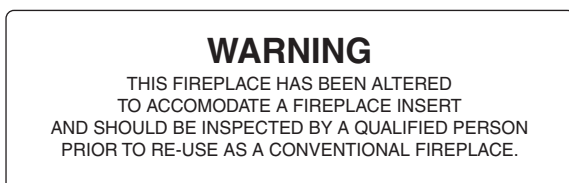

Fig. 20-1 Fireplace Warning Label
- F. Refractory panels, glass panels, screen rails, screen mesh and log grates may be removed from the fireplace (as needed) before installing the gas fireplace insert. Smoke shelves, shields and baffles may be removed if attached by mechanical fasteners. Any parts that are removed must be retained for later reinstallation to restore the fireplace to its original operating condition. The removal of any part must not alter the integrity of the outer shell of the pre-fab fireplace cabinet in any way. If any parts are removed (or altered) from the existing fireplace, a Warning Label (see Fig. 20-1 below) must be affixed inside the fireplace firebox. The label must be visible upon removal of the direct vent insert.